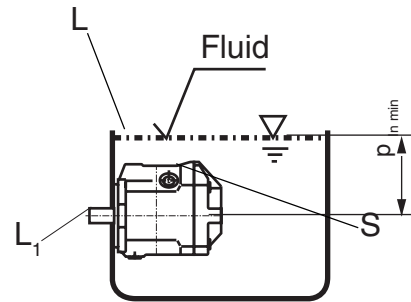

Fig. 3
a) If the minimum fluid level is equal to or above the top of the pump, ports "L", "L1" and "S" should remain open (see fig. 3).